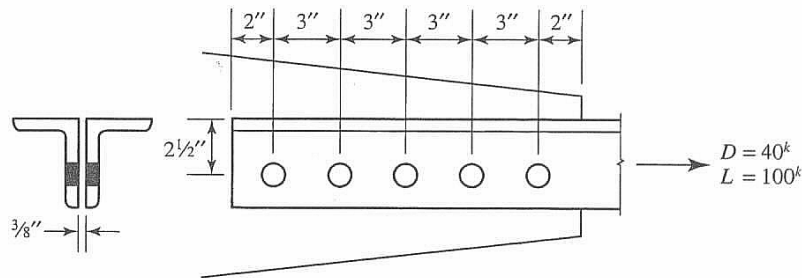

FIGURE P7.6-2
- 7.6-2** A double-angle tension member, $2L4 \times 3 \times \frac{1}{2}$ LLBB, is connected to a $\frac{3}{8}$ -inch-thick gusset plate with $\frac{7}{8}$ -inch-diameter A325 bolts as shown in Figure P7.6-2. Both the tension member and the gusset plate are of A36 steel. Does the connection have enough capacity based on shear and bearing? It is not known whether the bolt threads will be in shear.